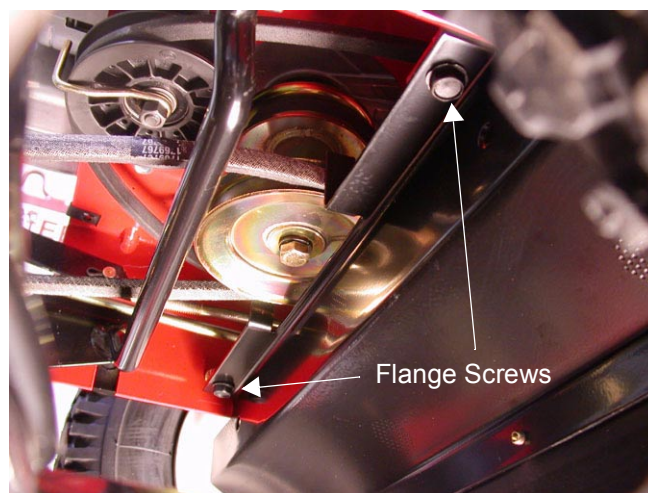

Figure 61
- 15.5. Using a ½ inch socket and extension, remove the two flange screws that secure the flap bracket to the frame. Remove the flap bracket and set it aside. See Figure 61.